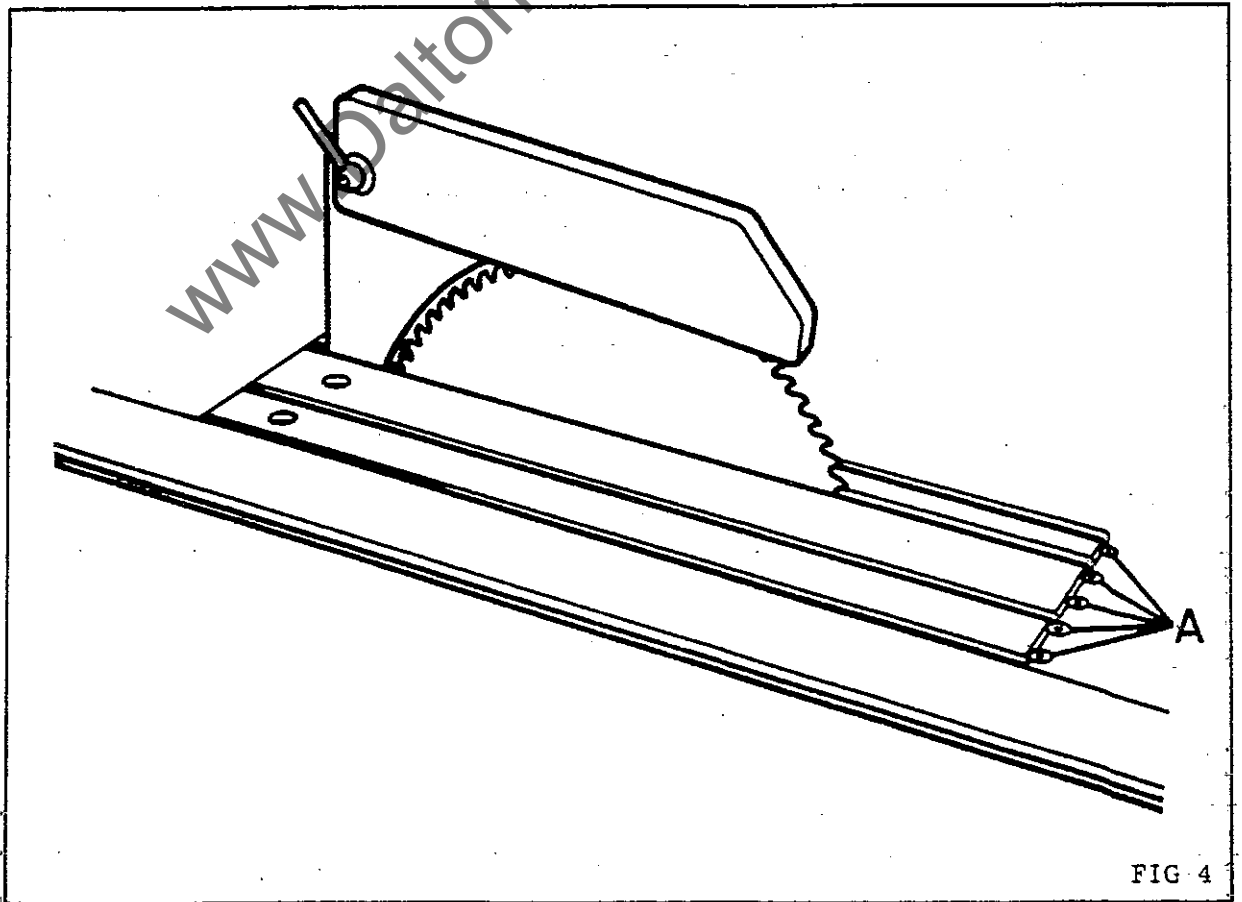

FIG 4
2. Loosen 5 - 8 mm countersunk socket head screws "A" in FIG 4 then, by inserting finger through hole in fingerplate, each plate can be carefully removed from table.
5. When fingerplates are set correctly, securely lock the 5 - 8 mm countersunk socket head screws "A" in FIG 4